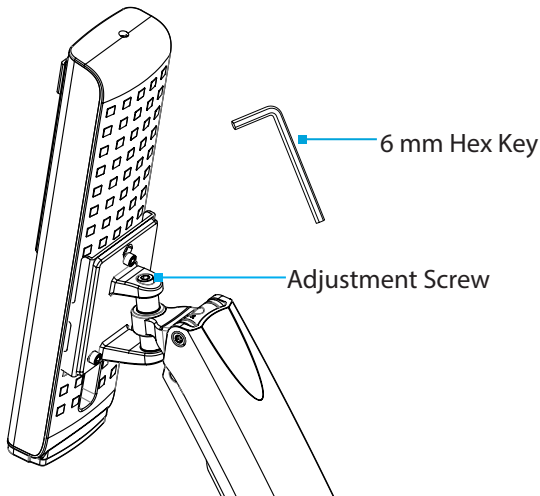

Figure 19
- Adjust the **Adjustment Screw**, located on the base of the **Monitor Arm**, to increase or decrease the swivel effort. (Figure 19)